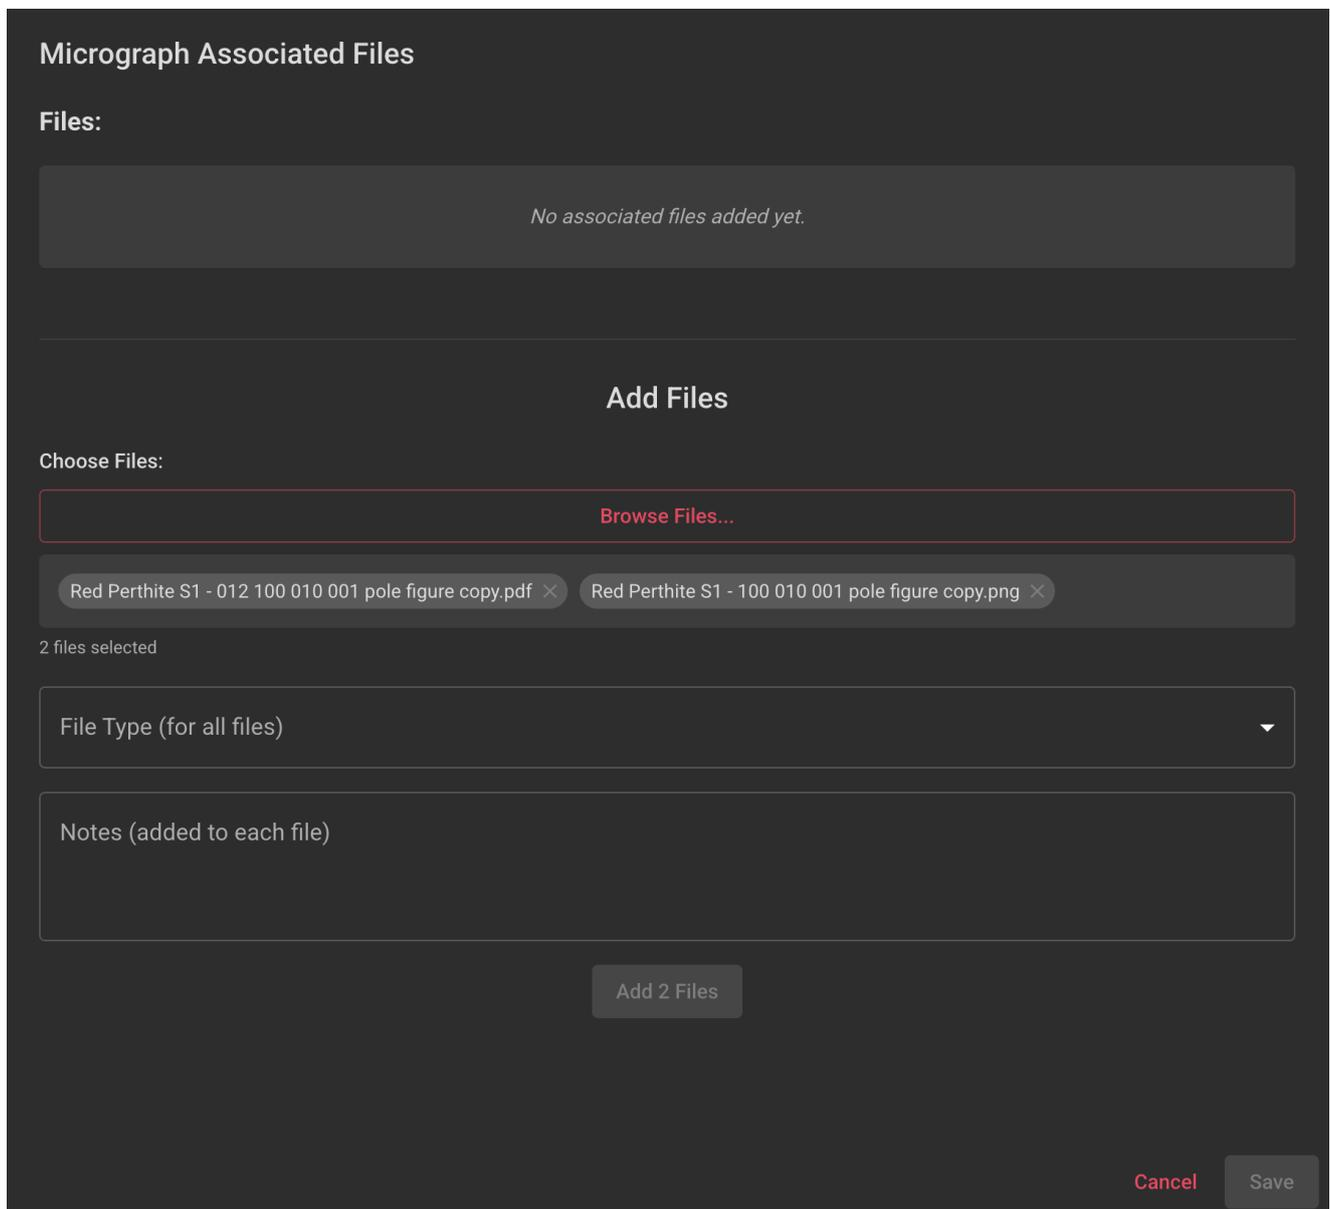

Figure 44. Bulk import interface showing multiple selected files as removable chips with shared metadata fields.
- **Preview selected files:** Selected files appear as removable chips in the dialog, allowing you to review and remove individual files before import (see Figure 44).